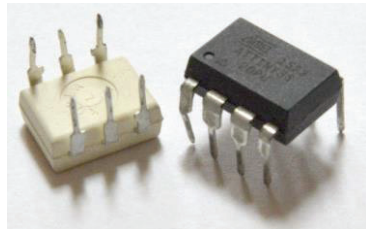

Figure 2-35. DIP chips are great for prototyping with breadboards.
Two DIP chips are shown in Figure 2-35: the MOC3010 (left), and the ATTiny85 (right). The MOC3010 is an infrared switch used to isolate mains (AC) power from logic. The ATTiny85 is a microprocessor with 8 kb of programmable memory, that you will really want to get to know next if you are enamored of the Arduino Uno.